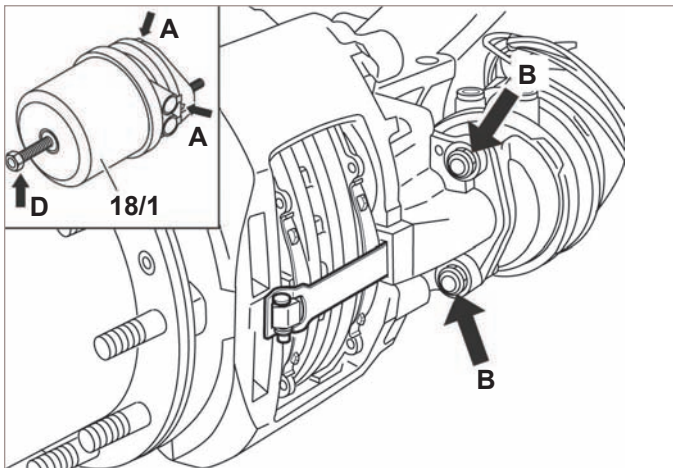

FIGURE 43 - ACTUATOR SPRING CAGING AND REMOVAL
5.4.3 With the vehicle on a level surface and the wheels properly chocked, apply air to release the spring brakes (parking brakes) by using the dash-mounted air control valve. Back out the release bolt (Figure 43, arrow "D"), using a maximum torque of 26 ft. lbs. (35 N·m) to cage the air released spring force on the push rod.
Note: Where a new spring brake chamber is being installed, note that typically drain plugs are installed (See Figure 43, arrows marked "A"). After installation, remove whichever plug is at the lowest position. Be sure that all other drain holes remain plugged. The selected drain hole must be aligned downwards (or within ±30°) when installed on the vehicle. In the case of spring brake chambers, install the pads before uncaging the spring.